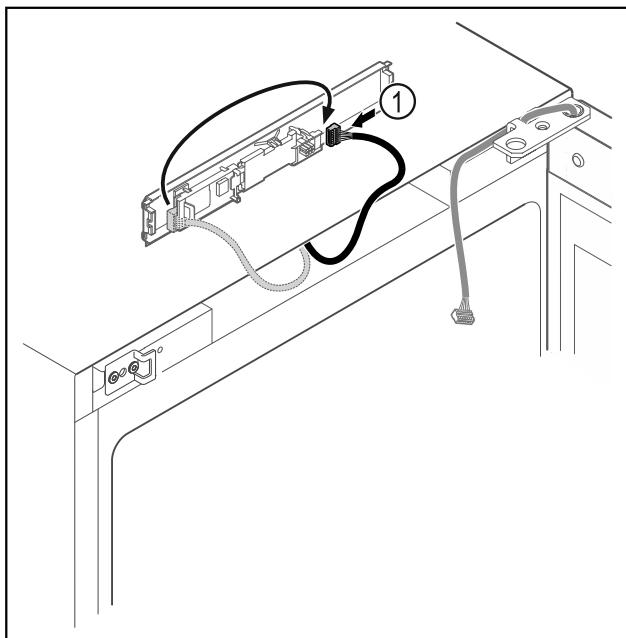

Fig. 7
- Connect the plug *Fig. 7 (1)* to the circuit board.